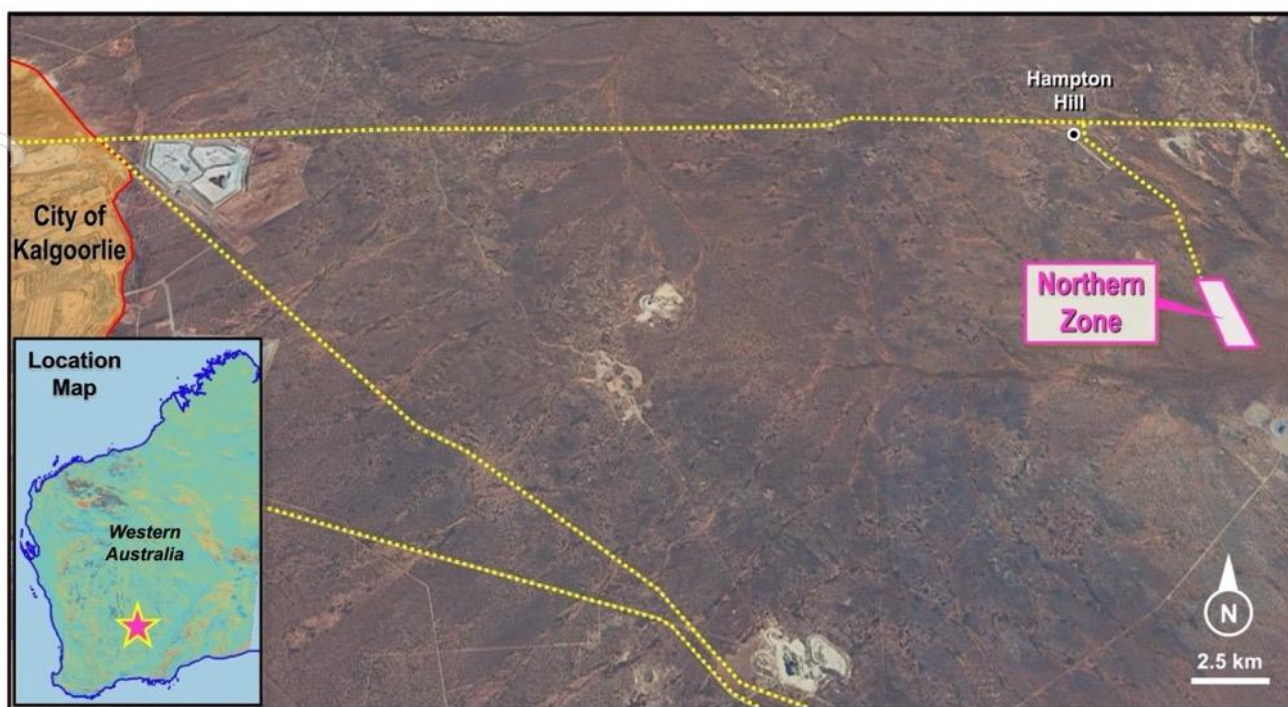

Figure 1: Northern Zone Project Map showing proximity to the Kalgoorlie "Super Pit".
Riversgold Limited (ASX: RGL, Riversgold or the Company) is pleased to announce that it has received further assay results from aircore (AC) drilling undertaken during July 2024 at the Northern Zone Intrusive Hosted Gold Project, located 25 km east-south-east of the Kalgoorlie Super Pit in Western Australia (refer to **Figure 1** for location) and readily accessed from the Bulong road, which is paved to within 9km of the prospect site. The last 9km consists of 4km of a high-quality haul road with the last 5km on a station road.